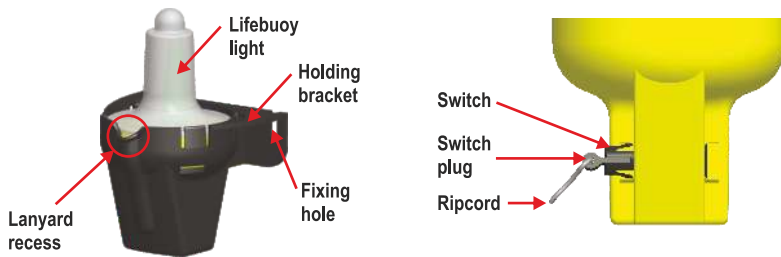
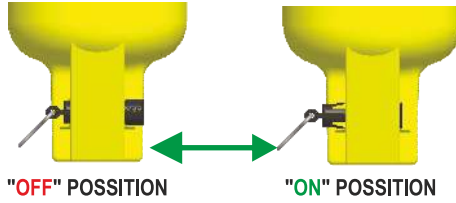
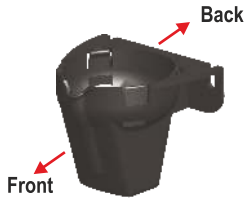
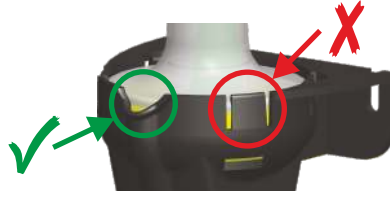

Fig 1: Parts Description
Fig 4: Check for efficient Operation
Fig 5: Holding Bracket Orientation
Fig 6: Correct Recess for the Lanyard in the Holder Bracket
After installation of the holding bracket using one of the above ways, secure the lanyard to the lifebuoy ring (Fig 3). Then remove carefully the lifebuoy light from its holder base to ensure that the switch plug is fitted in the switch (Fig 1).
Push the switch to "ON" position and check that the light operated efficiently (Fig 4).
Afterwards ensure that the switch plug is fitted in the switch housing (Fig 1) and turn the switch in "OFF" position again. Fit the light into the bracket with the switch side to the back and the lanyard in the front (Fig 5).
WARNING: Ensure that the lanyard is placed in recess (Fig 1 & Fig 6). Any other way of installation might affect the proper release of the lifebuoy light. Refer to Part 4 - Inspection Process for proper installation.
The 71326 lifebuoy light is attached with a lanyard to a lifebuoy ring (Fig 3), which when thrown into the sea, pulls the lifebuoy light from its holding bracket and switches it "ON" automatically. During the deployment, the lifebuoy sweeps along the lifebuoy light from its holding bracket and a ripcord (Fig 1 & Fig 4) switches "ON" the light providing a flashing light of at least 2,0 Cd in all directions of the upper hemisphere for more than 2 hours and an average flashing frequency of 0,88Hz.
3. Manually push the switch to the ON position (Fig 4) and check that the light operates efficiently. If the light does not operate, it needs to be replaced.
4. Ensure that the switch plug is fitted in the switch housing and turn the switch to the OFF position again (Fig 1 & Fig 4).
5. Fit the light into the bracket with the switch side to the back and the lanyard to the front (Fig 5).
Ensure that the lanyard is placed in recess. Any other way of installation might affect the proper release of the lifebuoy light (Fig 6). Periodical operational testing must last only a few seconds to avoid consuming of the battery voltage.